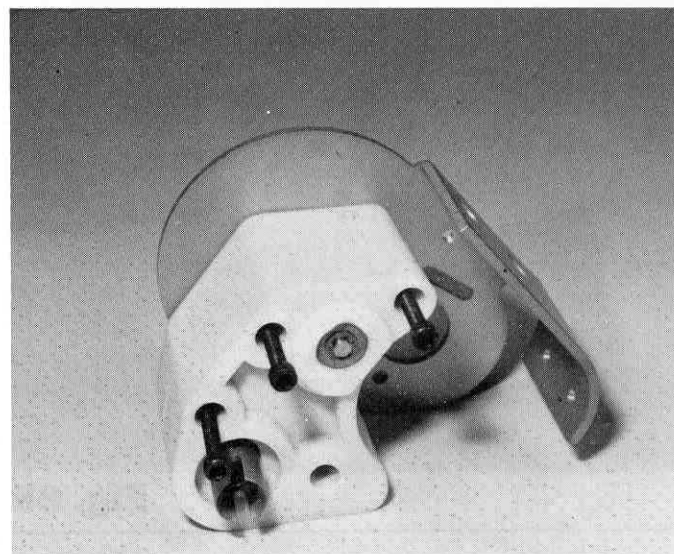

Fig. 92
- ☐ **Fig. 92** Take the 3 long Allen screws, as shown, and screw them into the motor mount.